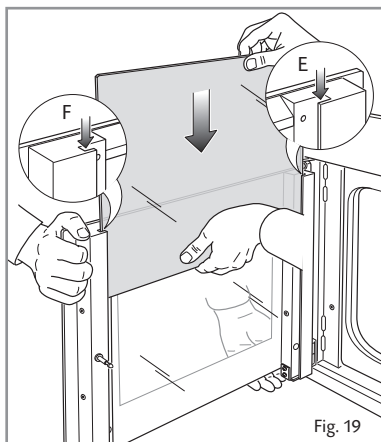
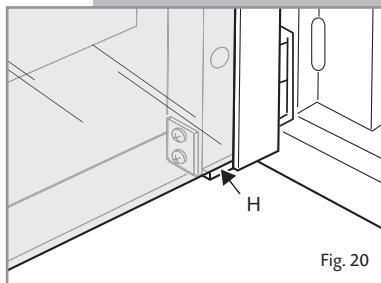

Fig. 19
Fig. 20
- Whilst one person holds the door still, a second person should insert the inner pane in the left **E** and right **F** side guides (fig. 19) and gently let it slide up to the retainers **H** (fig. 20).